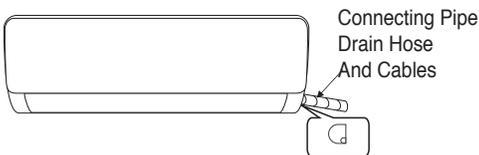
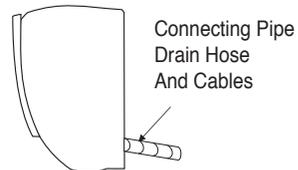

Fig.1
Fig.2
1. Depending on the position of the unit, the piping may be routed sideway from the left or the right ( Fig 1 ), or vertically from the back ( Fig 2 ) (depending on the pipe length of the indoor unit). In the case of sideway routing, cut off the outlet cutting stock of the opposite side.